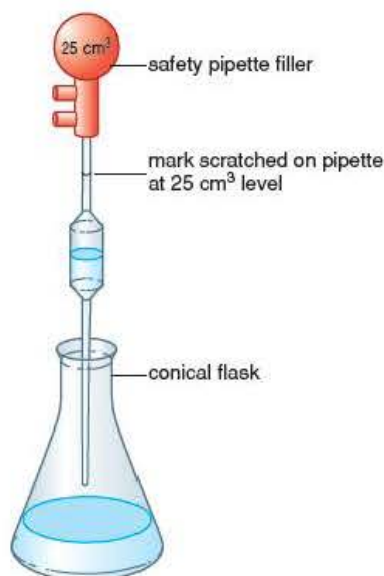

Figure 2.3 Measure 25.0 cm³ of 1.0 mol/dm³ NaOH(aq) using a pipette.
- 1 Measure 25.0 cm³ of sodium hydroxide solution containing 1.0 mol/dm³ (1.0 M NaOH(aq)) into a conical flask using a pipette (Figure 2.3).